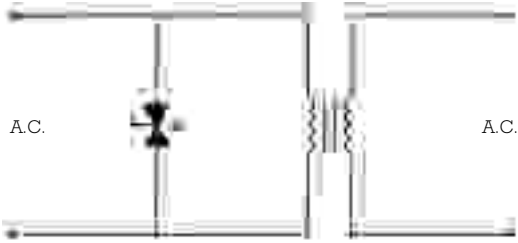

Fig. 17
6.7. Circuit protection from overvoltage supply power (Fig. 17)